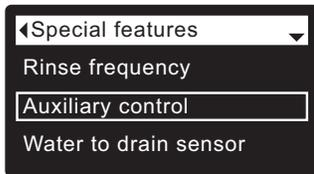

FIG. 75
1. From any of the rolling status screens, press the SELECT (O) button to display the **Main menu**.
3. Press the SELECT (O) button to display the Advanced settings menu.
5. Press the SELECT (O) button to display the Special features menu (See Figure 75).
9. Press the SELECT (O) button. The display will go back to the Special features menu (Figure 75).